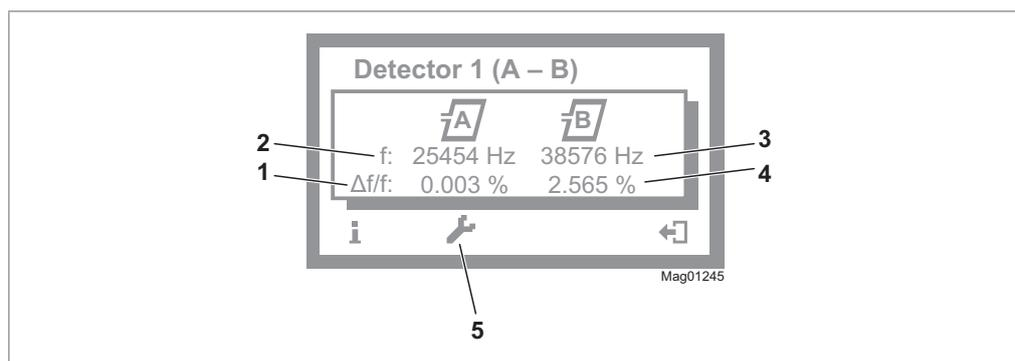

Fig. 28: View "Detector 1 (A-B)" (example)
1. Press the left button «**i**» repeatedly, until the menu "Detector 1 (A-B)" is displayed. ↗ Page 57, Fig. 28.